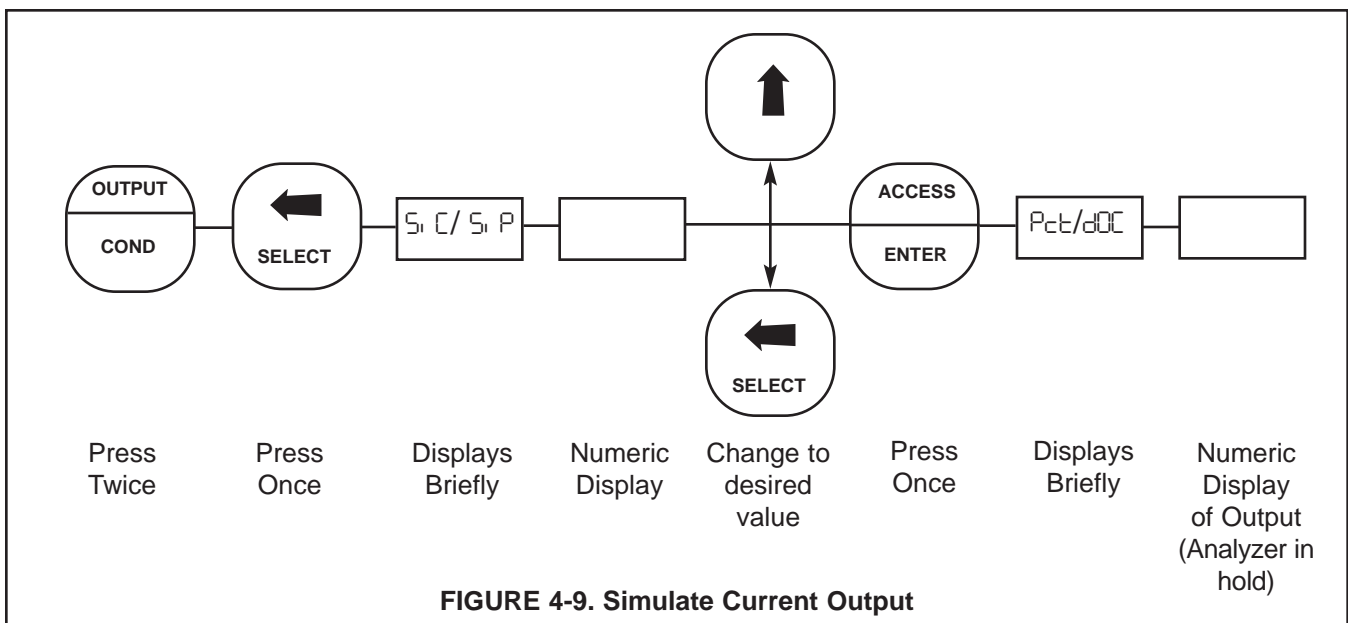

FIGURE 4-9. Simulate Current Output
4.9 SIMULATE CURRENT OUTPUT. The output can be simulated to check the operation of devices such as valves, pumps, or recorders. The output can be simulated in either current (mA) or percent of full scale, depending on how the output display “d-0” was configured in Section 4.5. (Refer to Figure 4-9.)